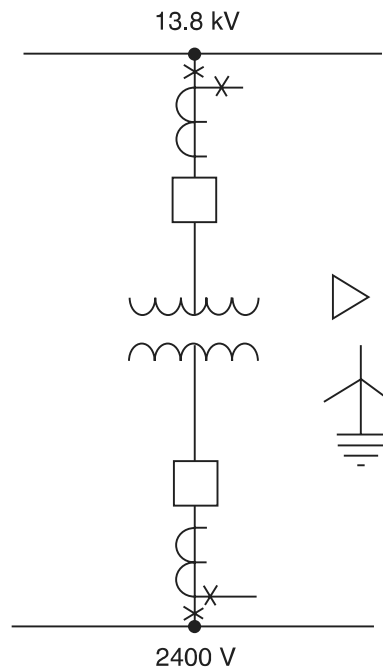

FIGURE P9.3
- 9.3** The transformer bank (Figure P9.3) shown connected between the 13.8 and 2.4 kV buses, consists of three single-phase units, each rated 1000 kVA 13.8:2.4–1.39 kV.